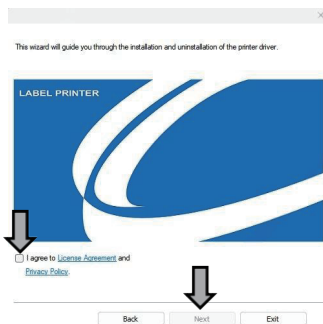

Fig.3
③ Proceed to the next installation screen. Carefully read the License Agreement and Privacy Policy, then check “I Agree” and click “ Next ” (see Figure 3).